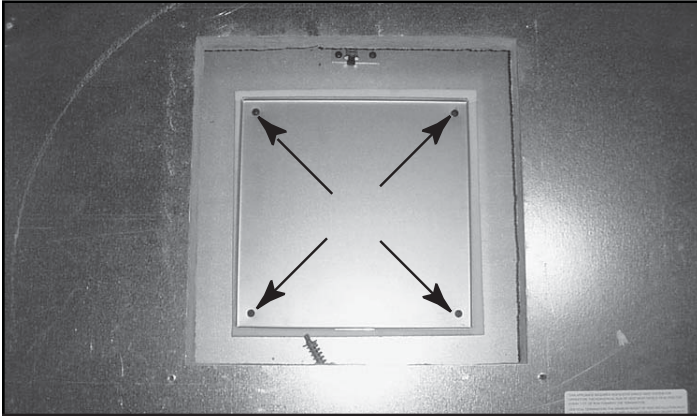

Figure 7.11 Attach Outer Cover Plate
- Place outer cover plate on appliance top and replace four screws to hold outer cover plate in place. See Figure 7.11. Make sure insulation is replaced along with cover plate.